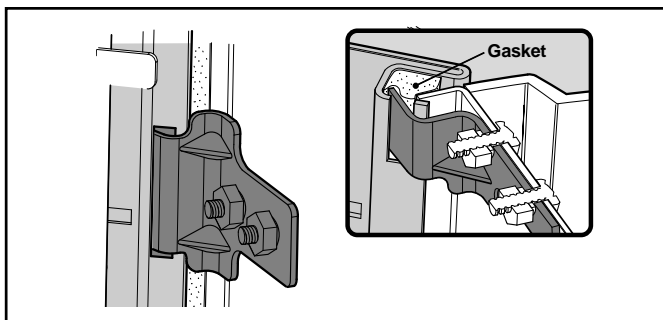

Figure 13 Inserting door tabs into cabinet slots
**Step 2:** Insert tabs into cabinet slots. Edge of door should fit into channel against gasket (see detail). See Figure 13.